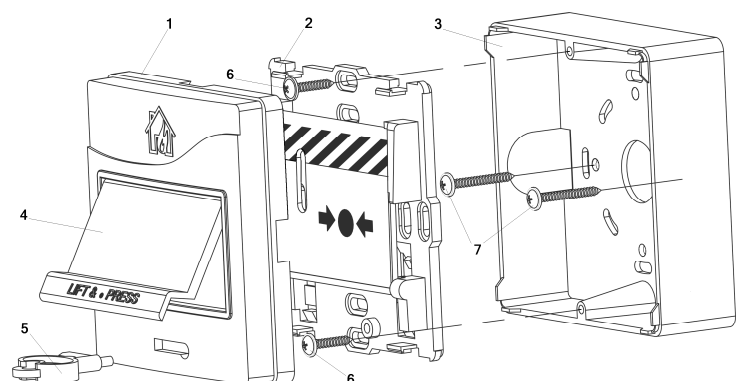

Figure 2
The call point shown disassembled in Figure 2 is to be mounted using the two screws to a flat vertical surface in accordance with your applicable local standards, codes, regulations, and ordinances. The installation order is as follows. Attach the base (3) with two woodscrews (7) to the wall. Then remove the front cover (1) from the central frame (2) and connect the wires passed within the base to the terminal block on the central frame. Next, fasten the central frame to the base with two woodscrews (6). And finally put the front cover on the assembled unit.
2.6.4 Reset the call point to its Norm state by inserting the special key provided (5 in Figure 2). Verify the call point LED starts flashing once per 4 s. From the panel or PC issue a command to cancel the alarm sent by the call point.